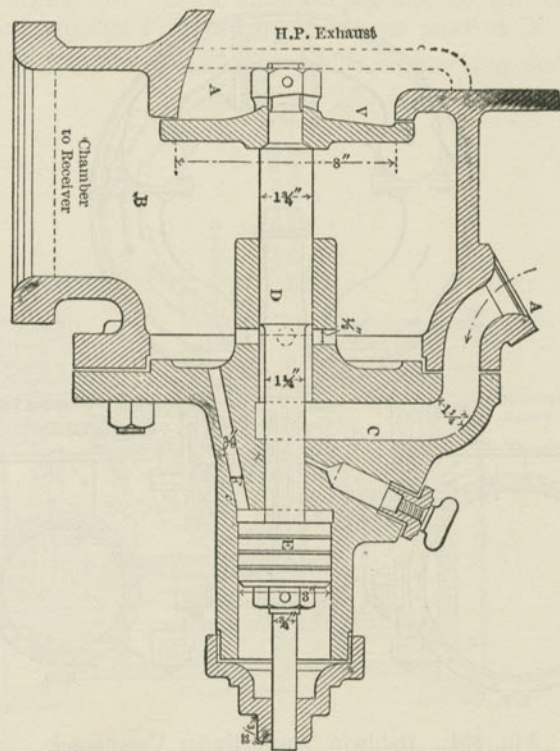

Fig. 332. Von Borries Intercepting Valve.
A. As shown in Fig. 332, it is in the side of the smoke-box and joined at A to the live steam pipe. Live steam passes into C, pressing the spindle D into the position shown (thus closing the main valve V) and enters the chamber B, in communication with the receiver and the L. P. chest. Live steam also acts through F against the piston E; but because of the greater area of the main